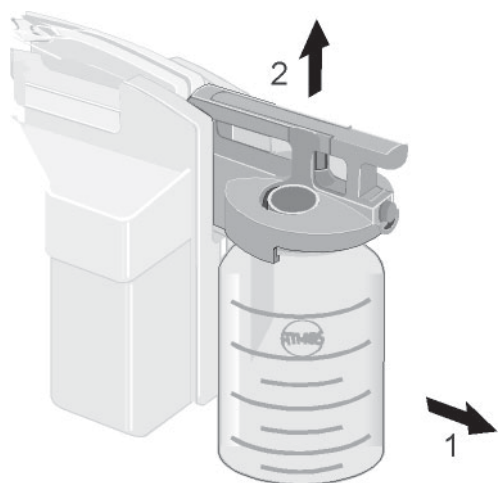

Fig. 19. Removing the collection jar
- The jar is easy to remove if you tilt it a little away from the device and then lift it off (Fig. 19).